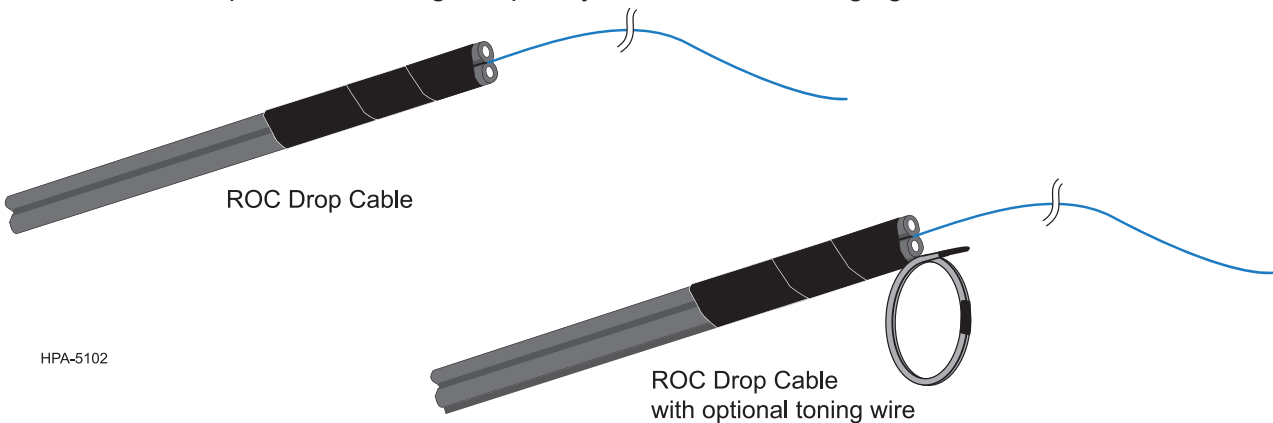

Figure 11
Step 5: Using care to avoid cutting the fiber, use scissors or side cutters to cut the sheath and GRP strength rods as flush as possible with the tape wrap (Figure 11). The tape will prevent trimming completely flush without damaging the fiber.